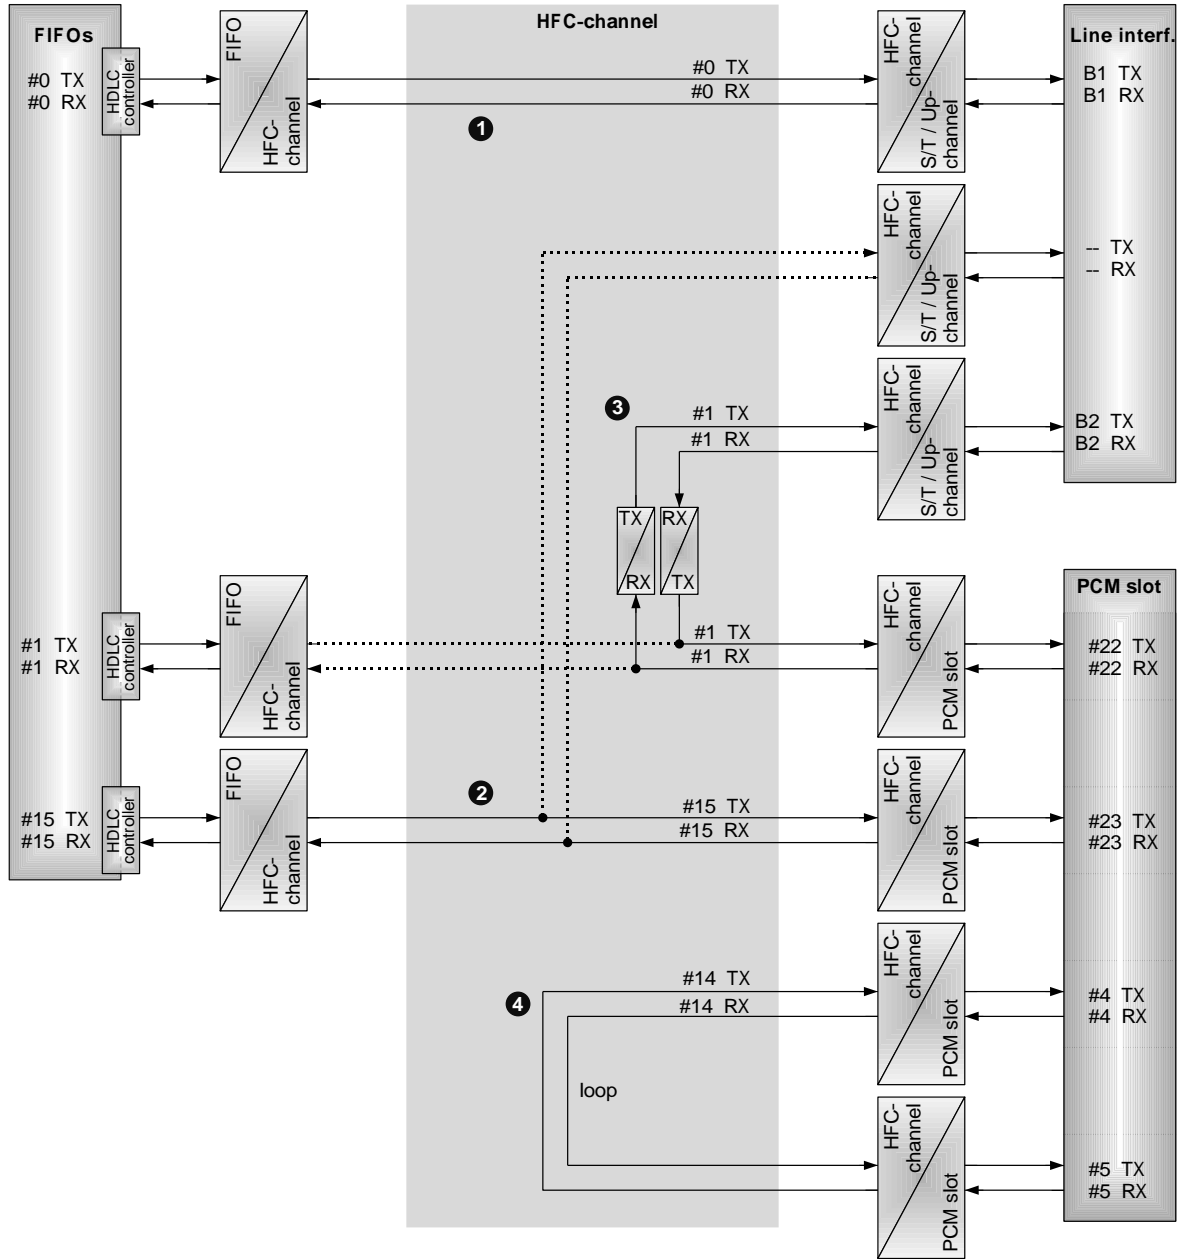

Figure 3.6: SM example
Figure 3.6 shows an example with four bidirectional connections (❶ FIFO-to-ST/Up, ❷ FIFO-to-PCM, ❸ PCM-to-ST/Up and ❹ PCM-to-PCM). The FIFO box on the left side contains the number and direction information of the used FIFOs. The ST/Up and PCM boxes on the right side contain the ST/Up-channels and PCM time slot numbers and directions which are used in this example. Black lines illustrate data paths, whereas dotted lines symbolize blocked resources. These are not used for the data transmission, but they are necessary to enable the settings.
All settings in Figure 3.6 are configured in bidirectional data paths due to typical applications of XHFC-1SU. However, transmit and receive directions are independent from each other and could occur one at a time as well.